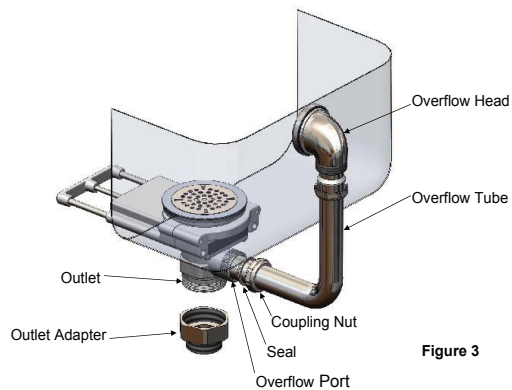

Figure 3
6. If Overflow is used (Figure 3) – Install the Overflow Head in the sink. The modular design of the waste drain allows the overflow port on the Outlet to be positioned Left, Right or Back. To change positions, remove the (4) cap screws with a 5/32" hex key wrench and rotate the Outlet to the desired position. If the Outlet has been removed, ensure the Valve Seal is either in the Valve Body correctly or installed on the Outlet lip correctly. Install the (4) cap screws and tighten. Measure and cut the overflow tube to fit into the Overflow Head and Overflow Port on the waste drain Outlet. Install the Coupling Nuts and Seals on the overflow tube. Install the overflow tube and tighten the connections.